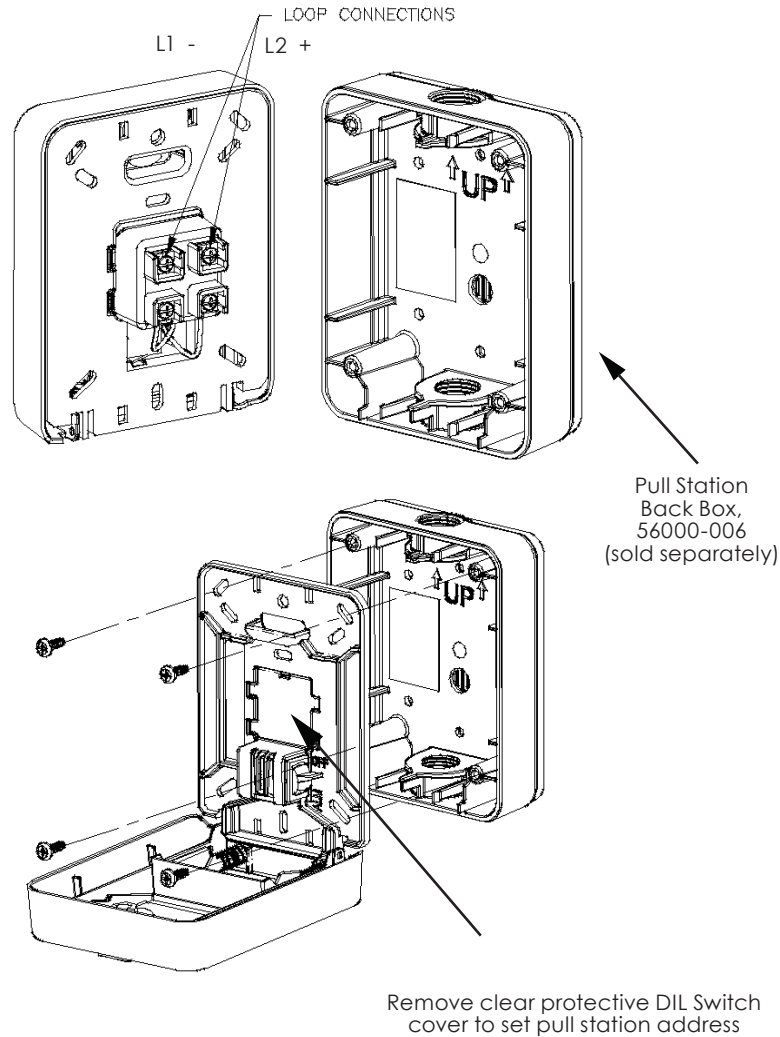

Fig. 1 - Connections to the Terminals.
**See Fig. 1 for wiring options.**
If using the Pull Station Back Box (56000-006), attach to the wall using four #8 screws that are appropriate for the wall type or anchor. Verify that the orientation of the box is as shown in Figure 1 on the following page, with the arrows inside the box pointing UP. Connect the ½ NPT conduit to the top or bottom of the box and run the wiring as required by the application. Make sure that the wires at the back of the pull station are not pinched by the work box during installation.